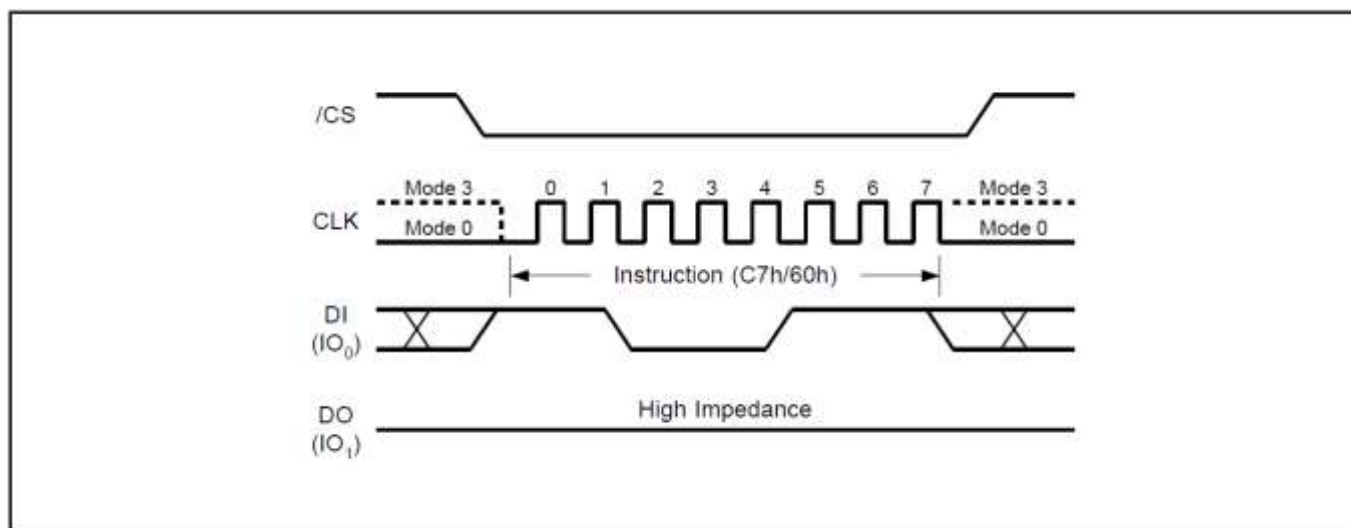

Figure19. Chip Erase Sequence Diagram
The Deep Power-Down Mode automatically stops at Power-Up, and the device always in the Standby Mode after Power-Up. The Deep Power-Down command sequence: CS# goes low → sending Deep Power-Down command → CS# goes high. The command sequence is shown in Figure19. CS# must be driven high after the eighth bit of the command code has been latched in; otherwise the Deep Power-Down (DP) command is not executed. As soon as CS# is driven high, it requires a delay of t_{DP} before the supply current is reduced to ICC2 and the Deep Power-Down Mode is entered. Any Deep Power-Down (DP) command, while an Erase, Program or Write cycle is in progress, is rejected without having any effects on the cycle that is in progress.